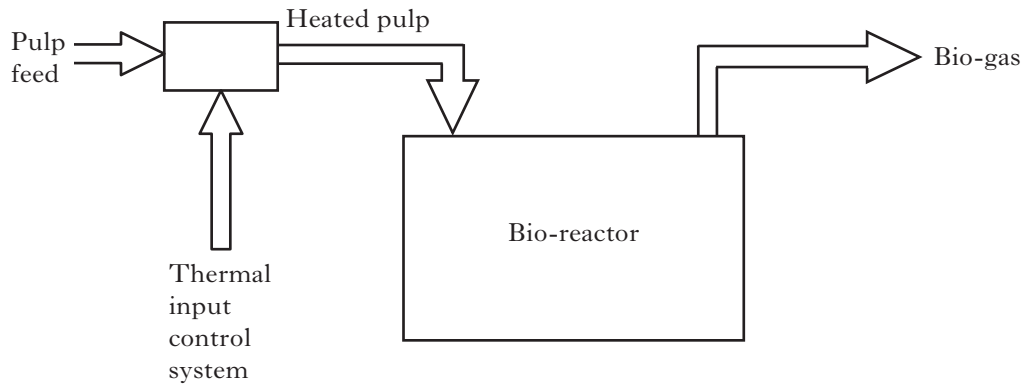

Figure Q1
1. A digestion reactor used in the production of bio-gas is shown in Figure Q1. The temperature of the heated pulp may be varied during the process. The thermal energy input is adjusted using a closed-loop PID control system.